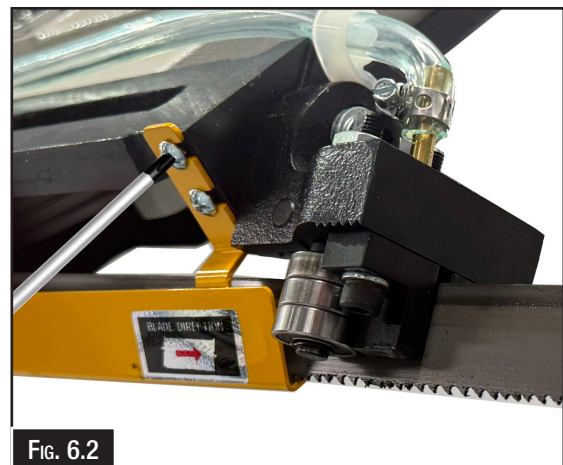

FIG. 6.2
2. Remove the blade guide assemblies (top and bottom) (Fig. 6.2)